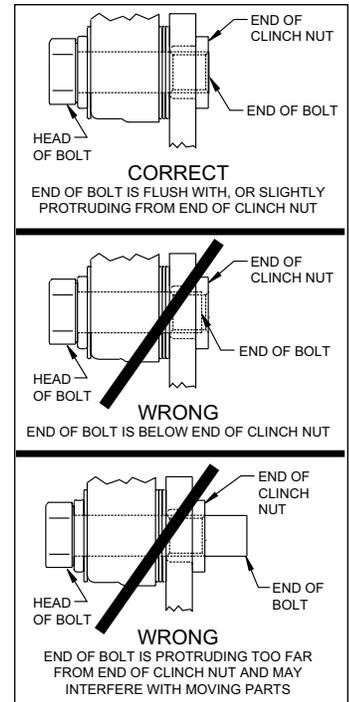

Figure 4. Clinch Nut Engagement Diagram
CAUTION: All mounting bolts must fully engage clinch nuts. Be sure to check that all bolts are either flush or protruding through flanged side of clinch nut after shimming, Figure 4.
end of each bolt must be flush with or slightly protruding from the head of the clinch nut, as shown in Figure 4. If necessary place spare shims between washer (17) and caliper mounting ear to achieve the proper clinch nut engagement. Once the caliper alignment and clinch nut engagement are correct, remove the bolts one at a time, apply red Loctite® 271 to the threads, and torque to 40 ft-lb.
- Install the disc brake pads (19) into the caliper, with the friction material facing the rotor (9), Photo 10. Secure in place using cotter pin (20), Photo 11.